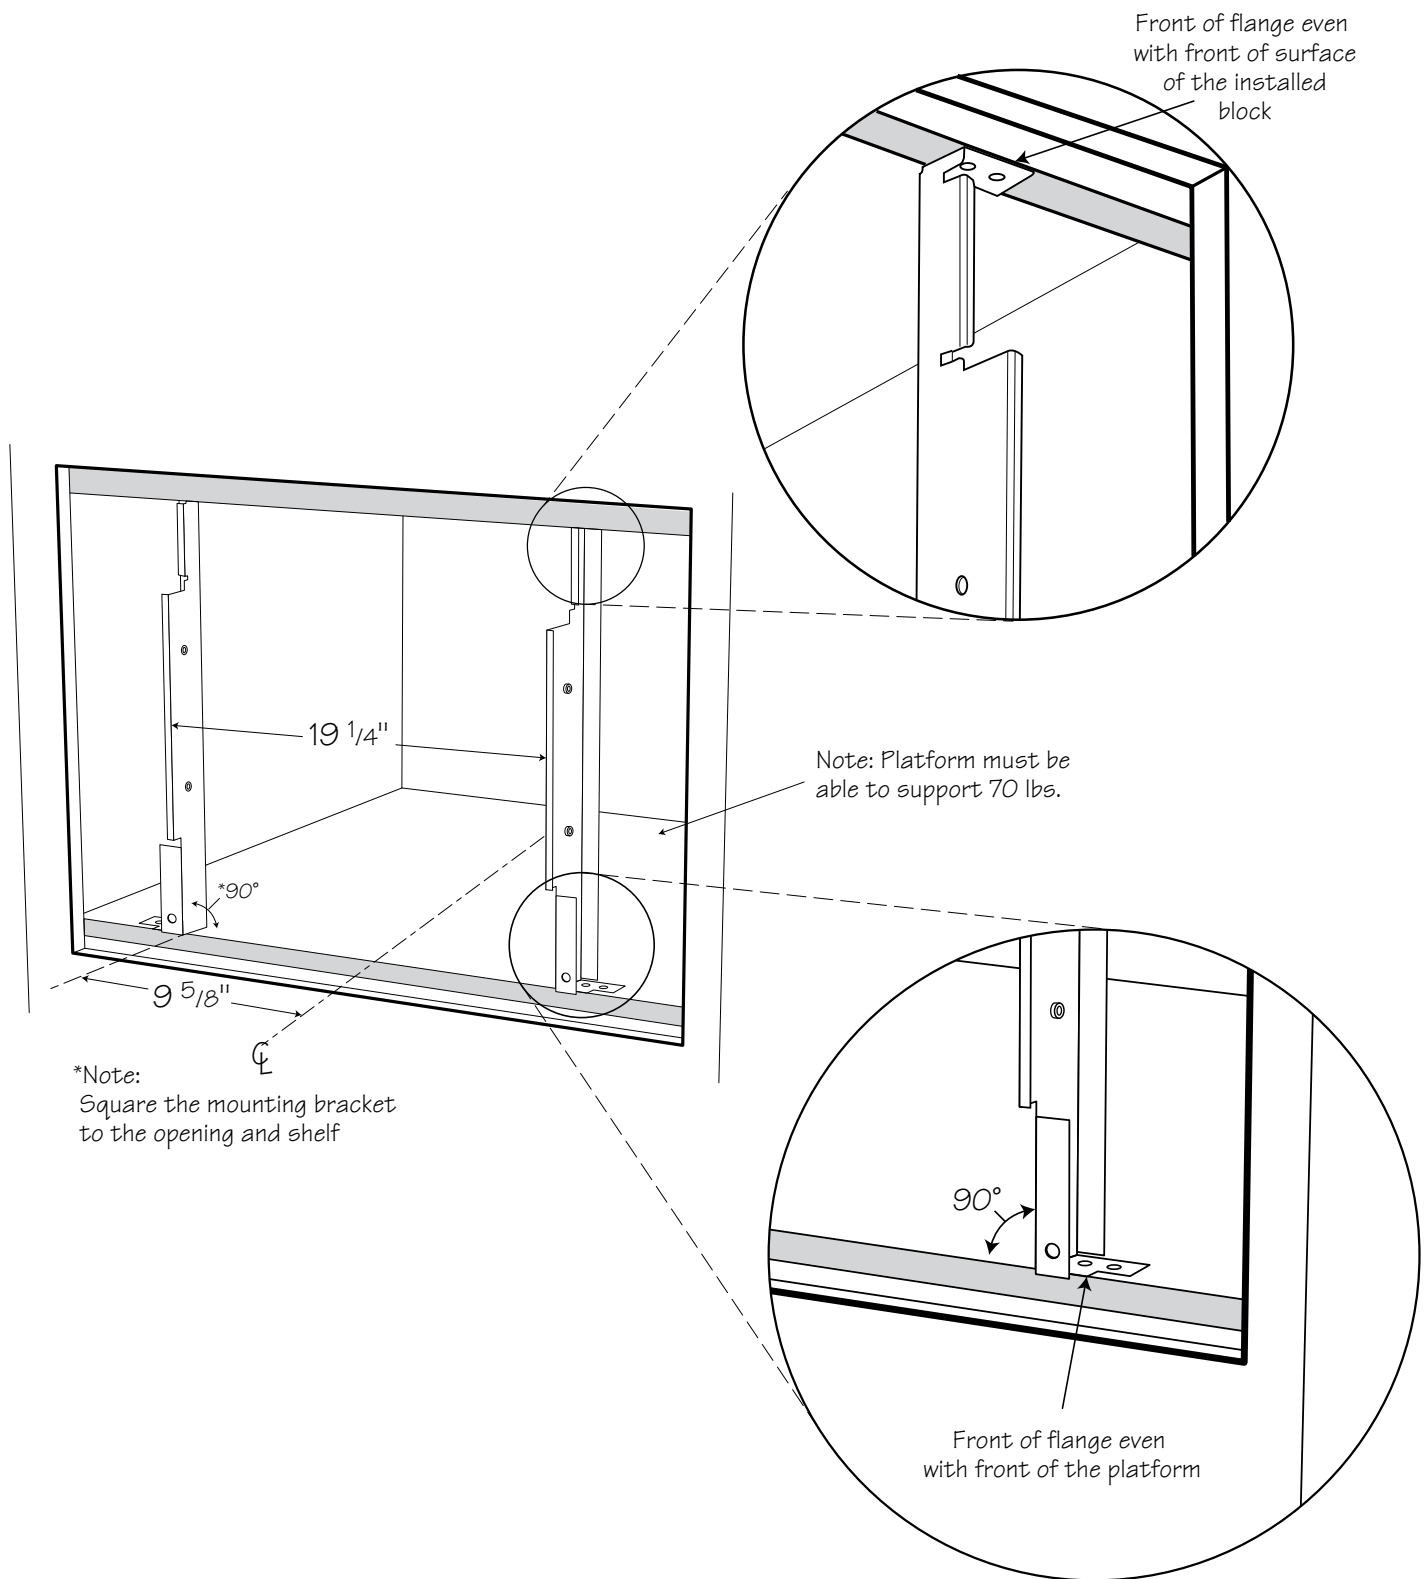

Figure 8
1. Install mounting brackets 19 1/4" with the 8 wood screws provided. Locate position, center punch and drill pilot hole 1/8". See Figure 8.